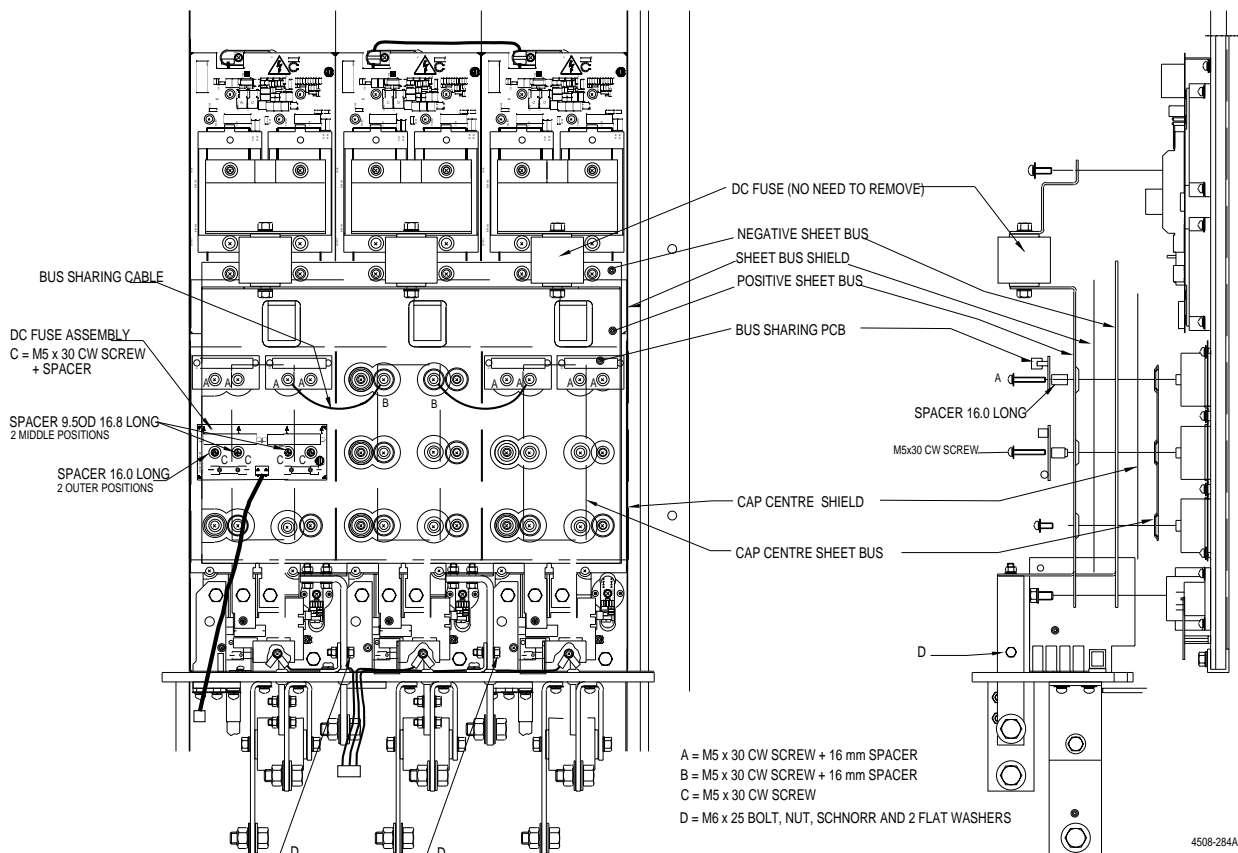
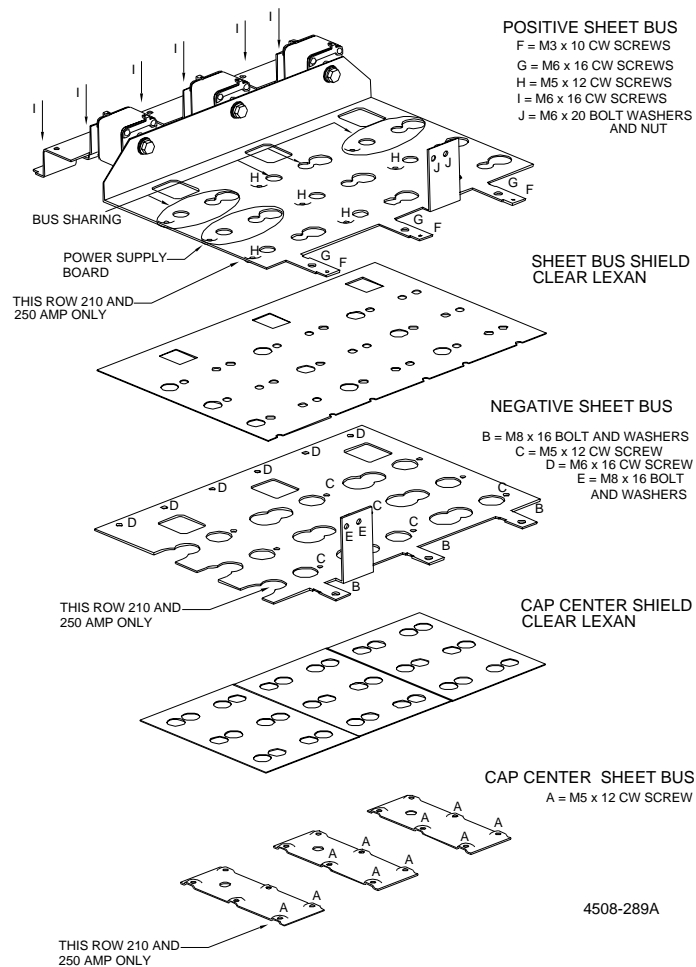

Figure 5.13: Frame 5 Positive and Negative Sheet Bus
Figure 5.14: Frame 5 Positive and Negative Sheet Bus 3D View
Refer to figure 5.13 and figure 5.14.
- 1) Refer to figure 5.13 and remove bolts D.
Refer to figure 5.14.